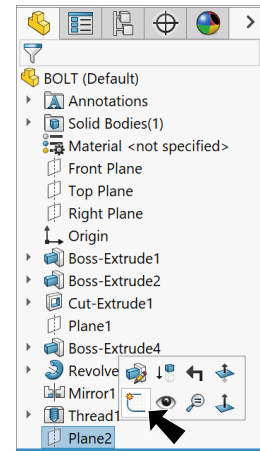

Fig. 46
Step 2. Click **Plane2**  in the Feature Manager and click **Sketch**  on the context toolbar, **Fig. 46**.